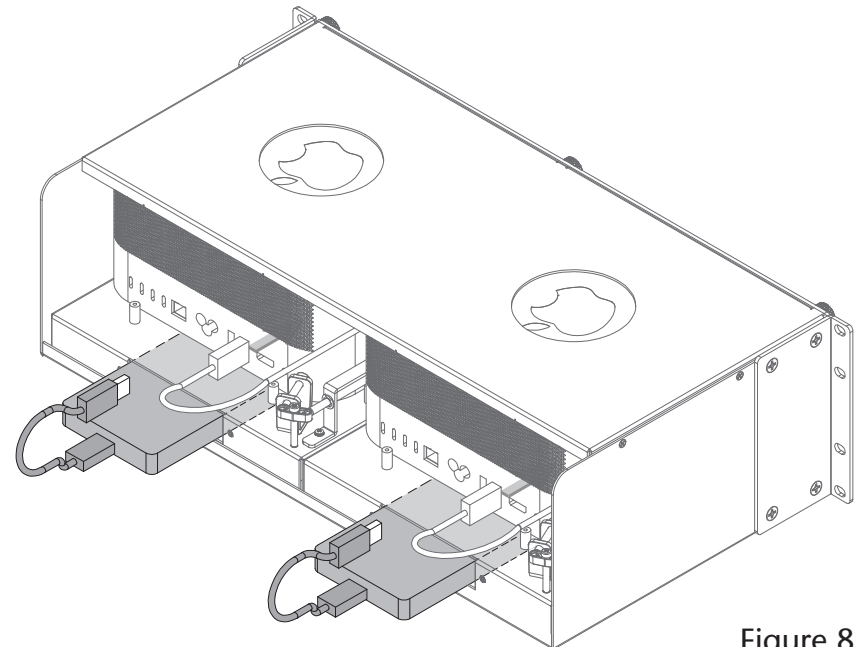

Figure 8
3. Insert the devices into the spaces beneath the computers, placing them far enough back so that the devices' cables may be routed through the cover plates (**Figure 8**).
4. Connect the devices to the computers (**Figure 8**).